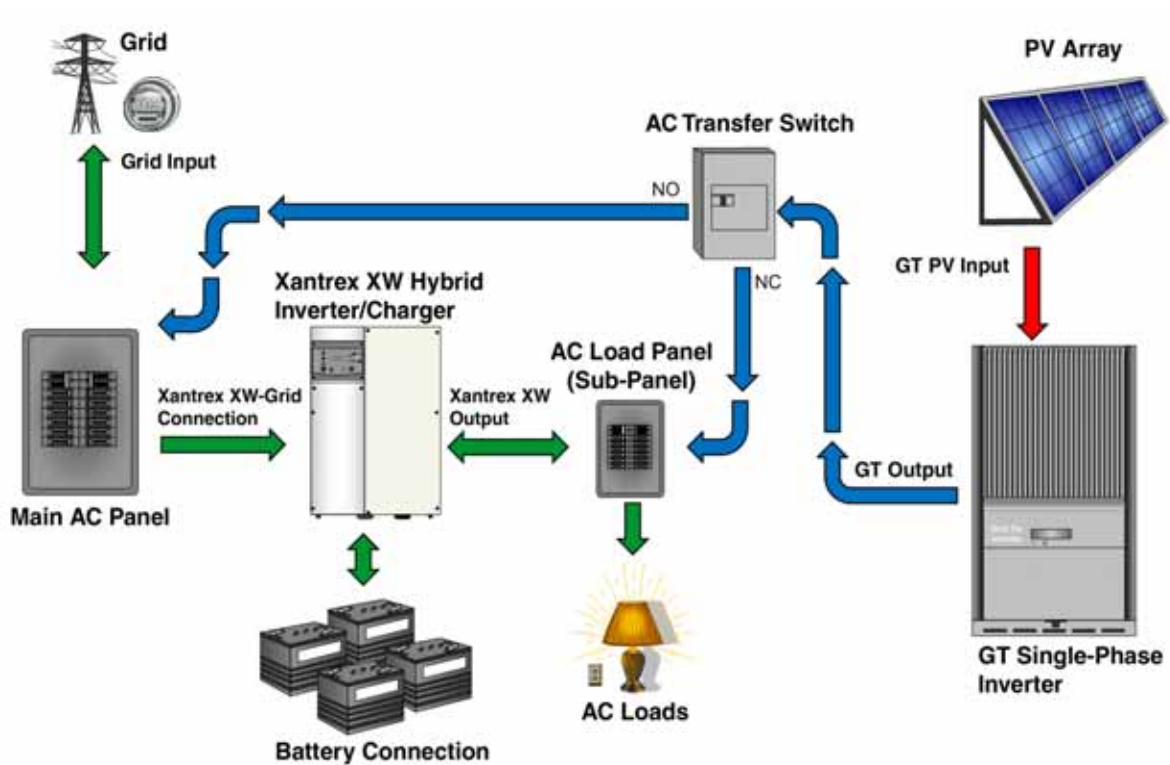

Figure 3 AC-Coupled System with a Renewable Feed-In Tariff
2. Install one or more GT Inverters according to its installation guide, with the following exception: instead of connecting the GT Inverter's AC output to the main service panel, connect these lines to the AC transfer switch (as shown in Figure 3) and the Xantrex XW's AC Load Panel (sub-panel).